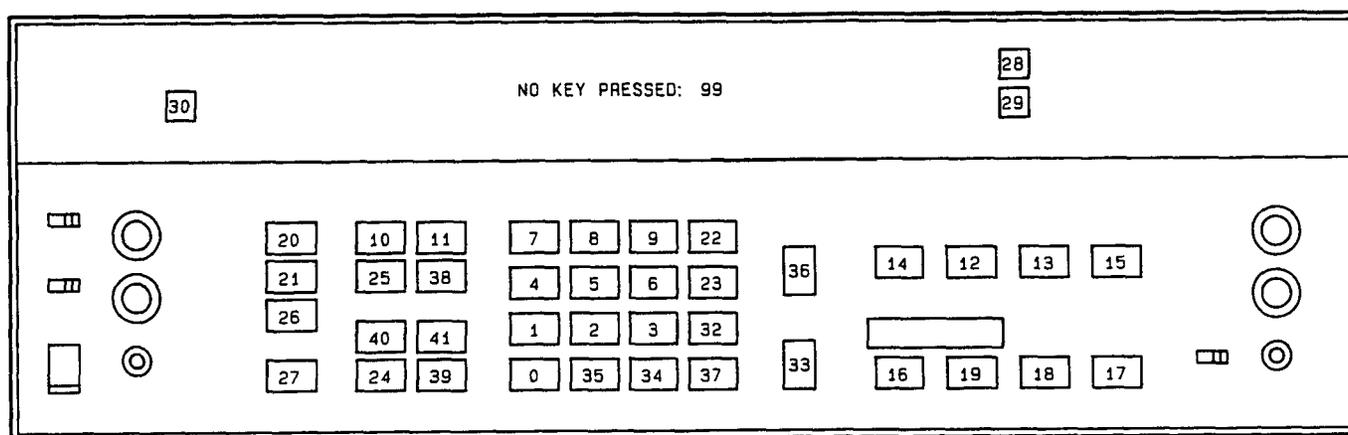

Figure 8-6. Key Codes for Key Scan (Service Special Function 60.0)
60.0 Key Scan. The keyboard is scanned and a keycode is displayed and output to the HP-IB. The key codes are shown in Figure 8-6.